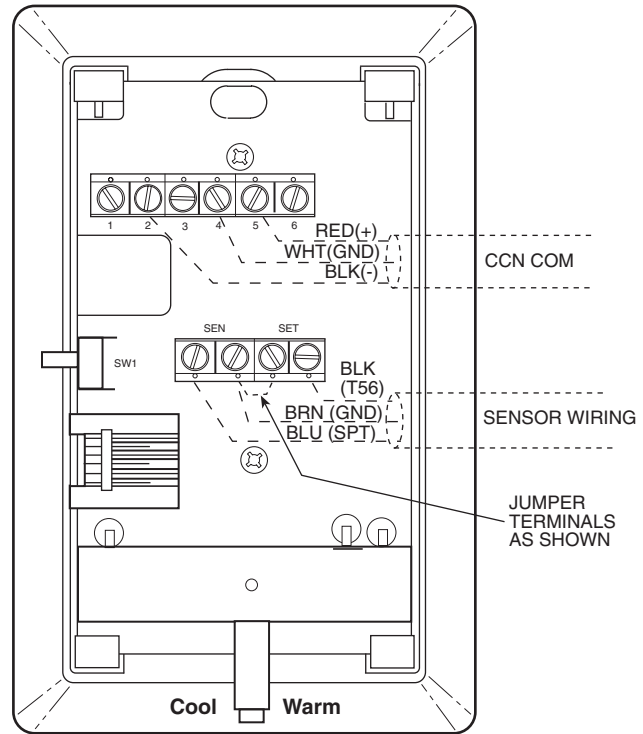

Fig. 4 — Space Temperature Sensor Typical Wiring (33ZCT56SPT)
- e. On 33ZCT56SPT thermostats install a jumper between the two center terminals (right SEN and left SET). See Fig. 4.